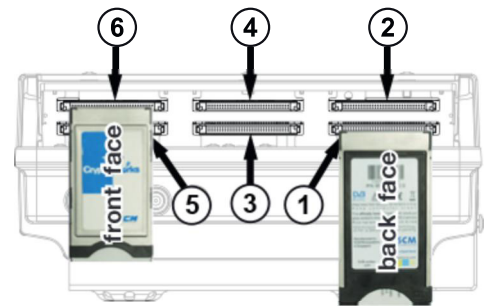

Fig. 5: Inserting the CA modules into the CI slots
Risk of damage to the CI slots. Insert the CA modules (CAM) into the slots ②/④/⑥ with the **front face** uppermost; and into the slots ①/③/⑤ with the **back face** uppermost (Fig. 5). See also the instructions for use supplied with the CAM.
2. Insert the CA modules as shown in the example in Fig. 5.